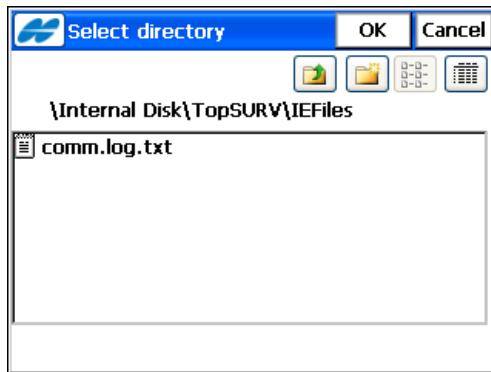

Figure 4-33. Select Directory
- **Next** – opens the **Select directory** screen (Figure 4-33) to select the directory to save the file. The file will have the same name of the exported alignment .